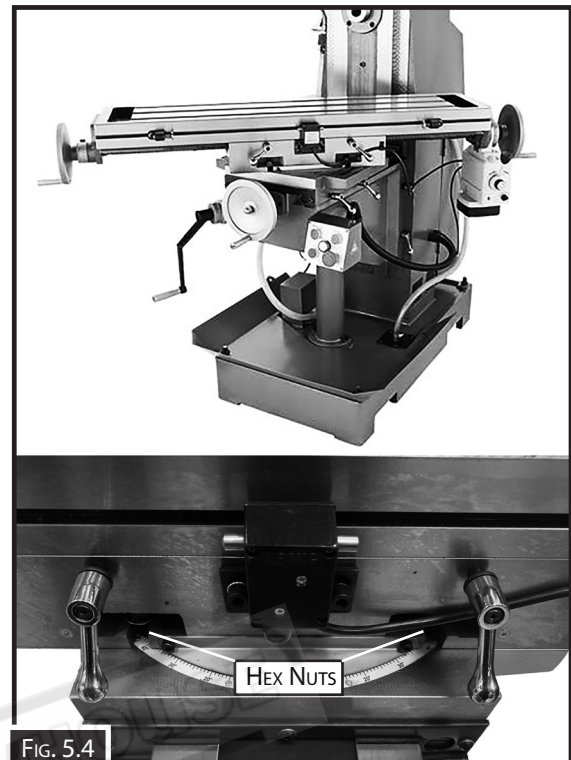

Fig. 5.4
The table rotates 45° left or right (Fig.5.4)
3. Loosen the four hex nuts that secure table to knee (see Fig. 5.4).